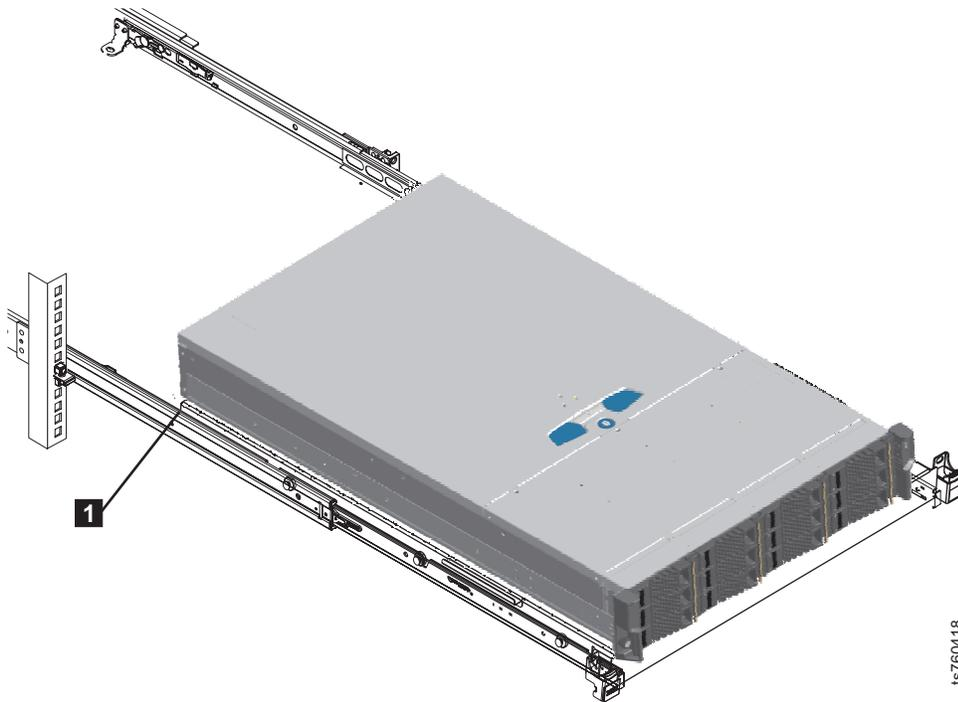

Figure 34. Extending the slide rails and support tray
2. Refer to Figure 34 on page 61. Working from the front of the rack, push the front tab and pull the slide rails and support tray forward. Continue pulling until the rails are fully extended and click into the locked position **1**.